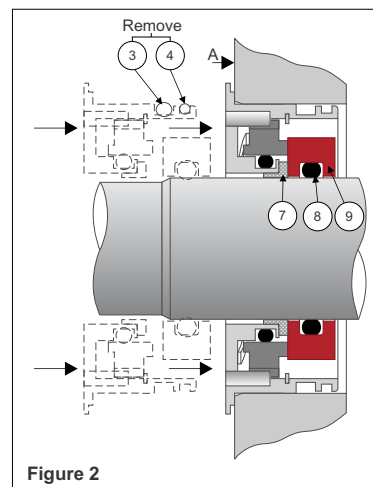

Figure 2
- With the setting ring (item 7) installed in the stationary assembly and the stationary o-rings (items 3 & 4) removed, assemble the stationary unit onto the shaft allowing the rotary and stationary faces to make contact. Note that this must be done slowly and carefully to avoid damaging the seal faces.
- Carefully push the stationary assembly into the bearing housing until the flange of the stationary housing makes contact with the bearing housing (Surface A - **Figure 2**)